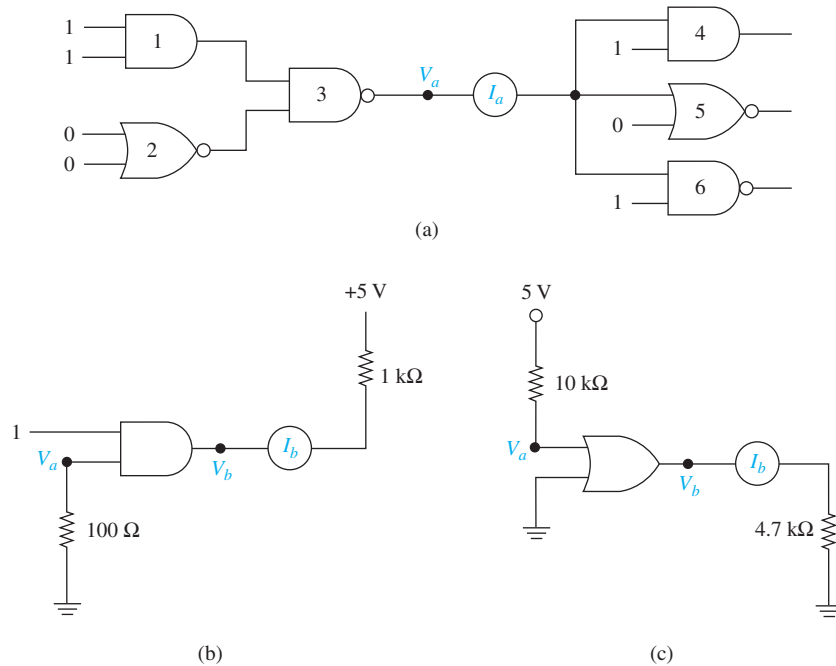

Figure 9-9 Voltage and current ratings.
Find the voltages and currents that are asked for in Figure 9-9 if the gates are all standard (74XX) TTLs.
- (a) Find V_a and I_a for Figure 9-9(a).
- (b) Find V_a , V_b , and I_b for Figure 9-9(b).
- (c) Find V_a , V_b , and I_b for Figure 9-9(c).